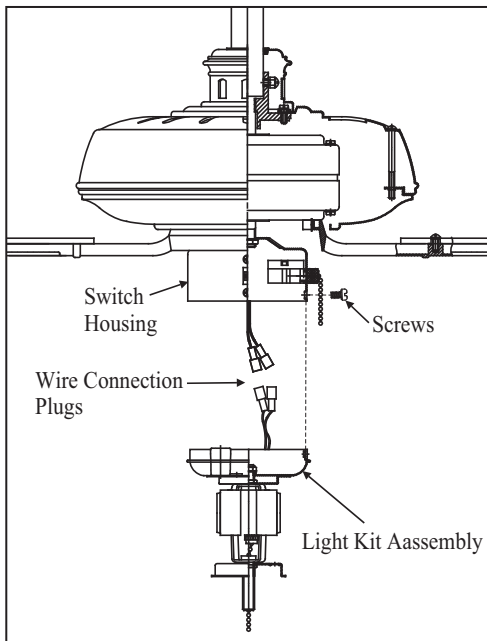

Figure 15
2. Carefully push all wires back into the switch housing. Attach the light kit fitter by aligning its keyhole slots with the three screw holes and the reverse switch on the switch housing. Tighten the three screws securely to prevent the light kit from vibrating loose. (Fig. 15)